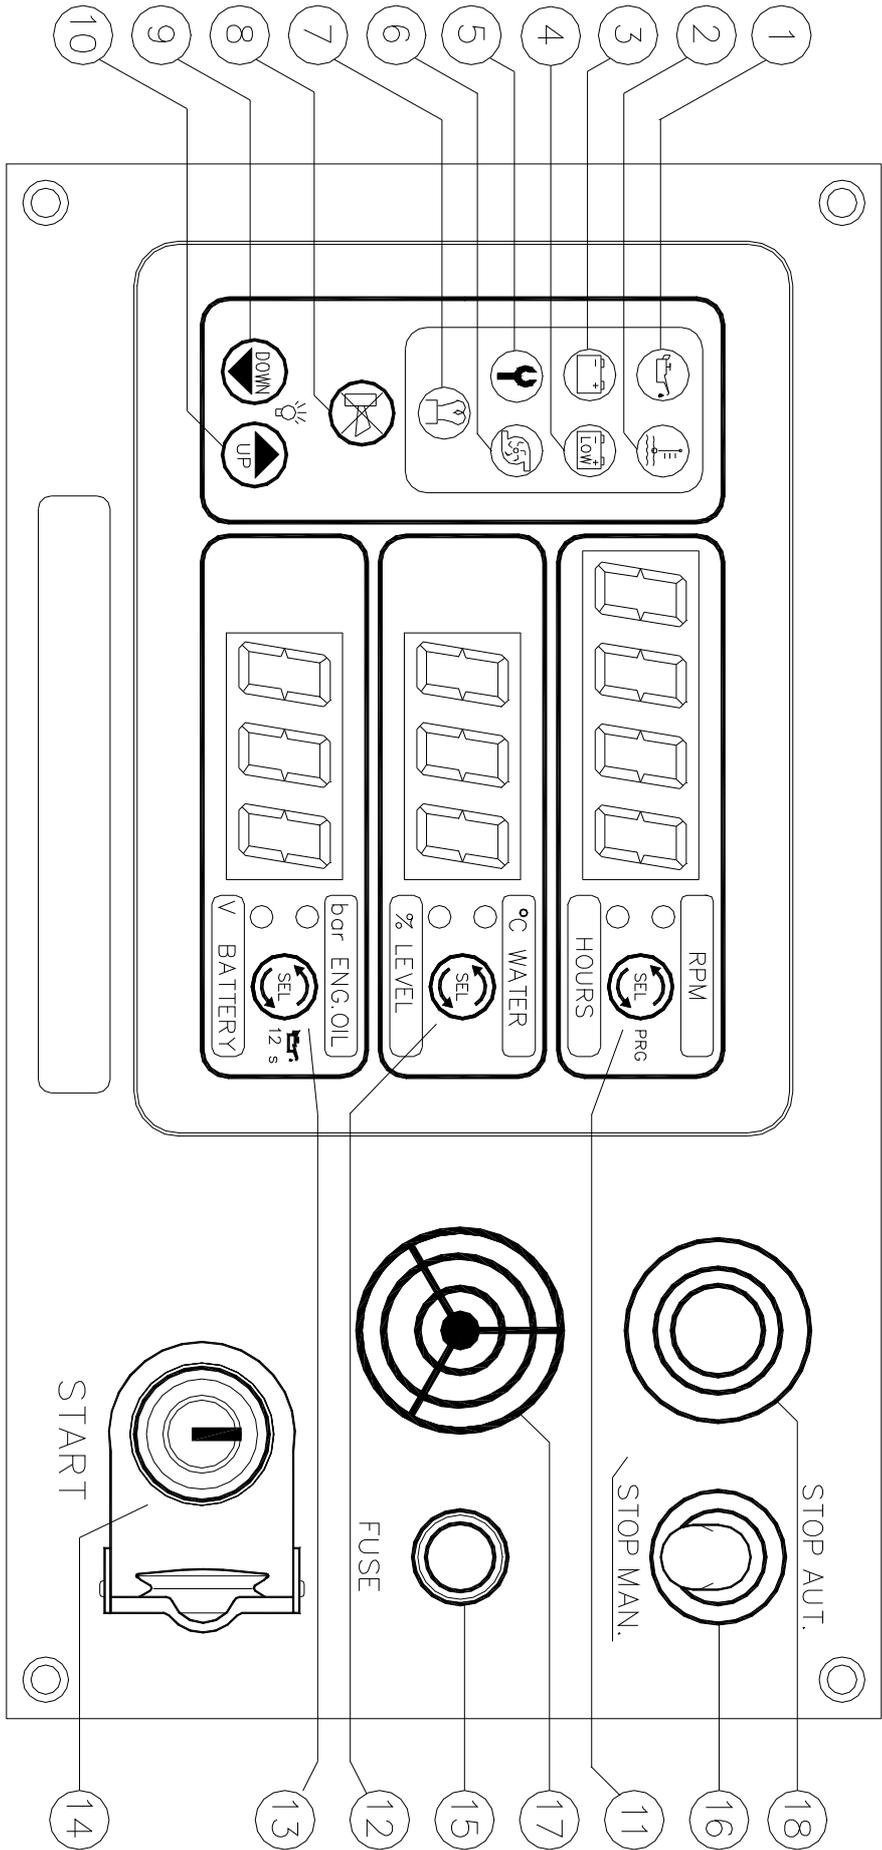

Fig. 1 - CM20/30 panel
4. ALLARMI, SEGNALAZIONI E COMANDI (rif. fig. 1)